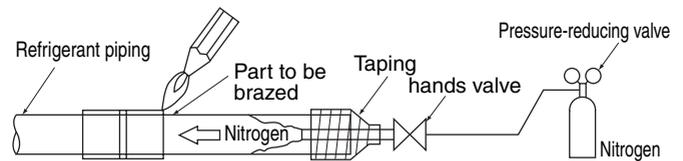

Fig. 25
- Nitrogen should be set to 0.02 MPa (0.2 kg/cm²) with a pressure-reducing valve if brazing while inserting nitrogen into the piping. (Refer to Fig. 25)